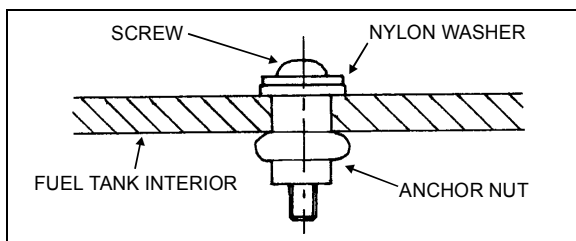

FIGURE 9: FUEL TANK REPAIR
5. Place assembly in drill hole. Tighten screw by 10 complete turns. Refer to Fig. 9.